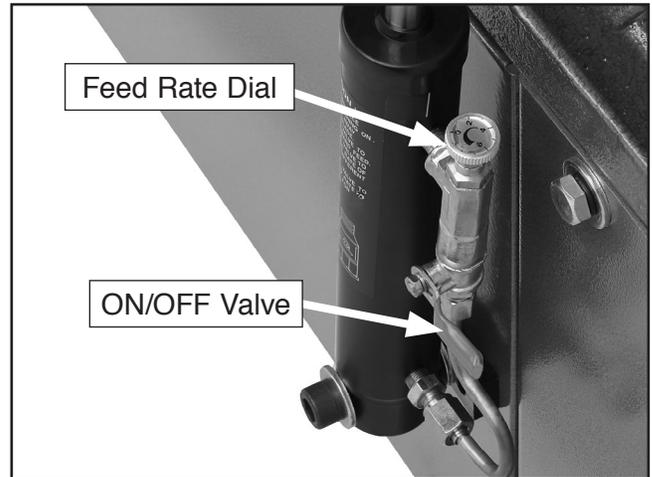

Figure 23. Feed rate dial.
4. Close the feed ON/OFF valve to lock the headstock and blade a few inches above the workpiece (see **Figure 23**).
6. Slowly rotate the feed rate dial clockwise to a slow feed rate until the saw begins to cut the workpiece (see **Figure 23**).